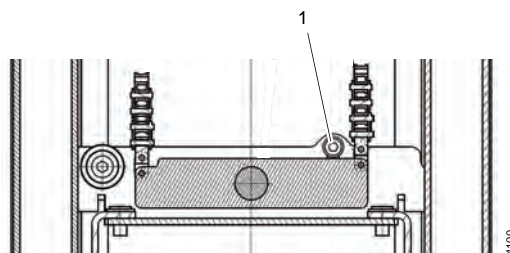

Fig. 4-42 Transport lock
8. Continue to raise the wall stand (1) using the mounting beam (2) off the pallet to an upright position.
12. Remove transport locks, see Fig. 4-42 *Transport lock*.